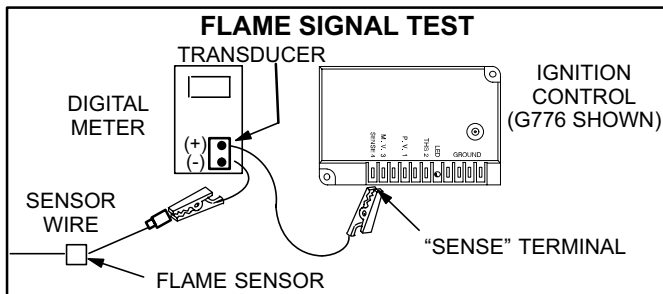

FIGURE 47
- 4 - Connect (+) lead of transducer to ignition control sensor connection. See figure 47.
- 5 - Connect (-) lead of the transducer to sensor wire. See figure 47.